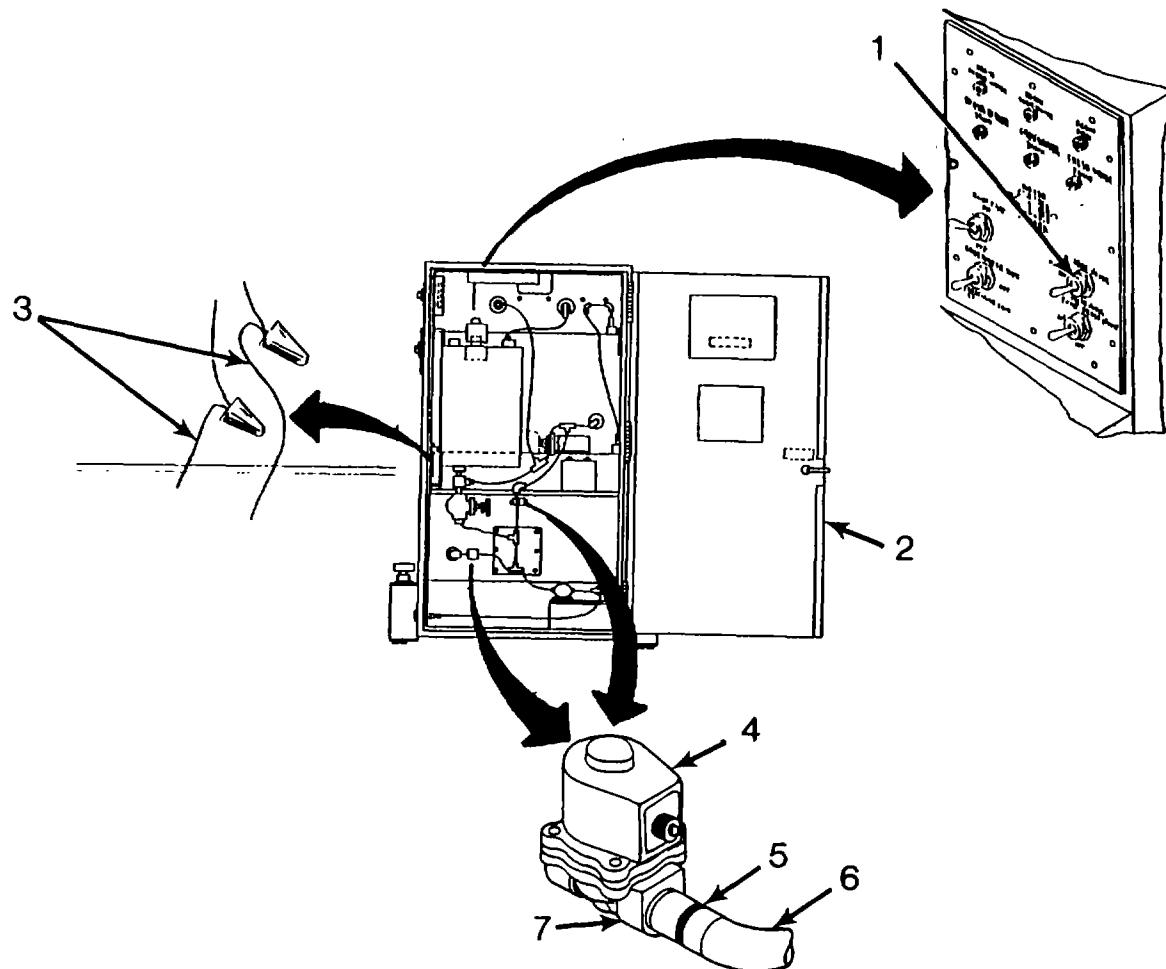

Figure 4-27. Replace Fresh Water or Gray Water Drain Solenoid
- k. Repair by replacing Fresh Water or Gray Water Drain Solenoid. (Figure 4-27.)